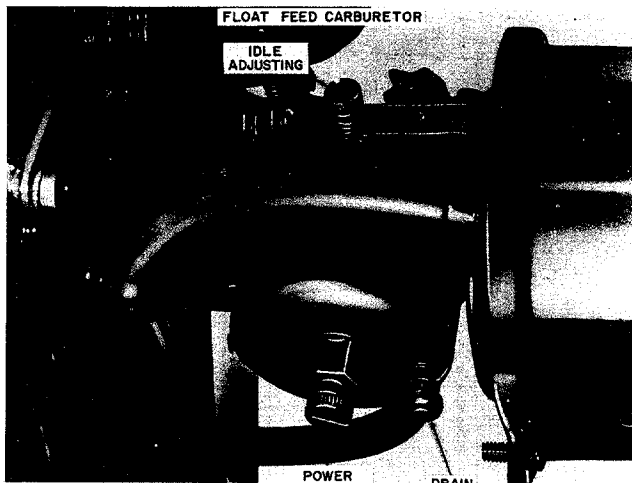

FIGURE 11.
1. Close power adjusting needle (figure 11) by turning to right (clockwise). Close finger tight only. Forcing will cause damage.
3. Close idle adjusting needle (figure 11) by turning to right (clockwise). Close finger tight only. Forcing will cause damage.
7. Hold throttle lever closed or move carburetor control to IDLE or SLOW position and adjust idle adjusting needle until engine runs smoothly proceeding as in step six (6) above.
8. Allow several seconds between each adjustment when performing either step six (6) or seven (7) to allow engine to react to new setting.
2. Drain carburetor by pressing upward on bowl drain (figure 11)